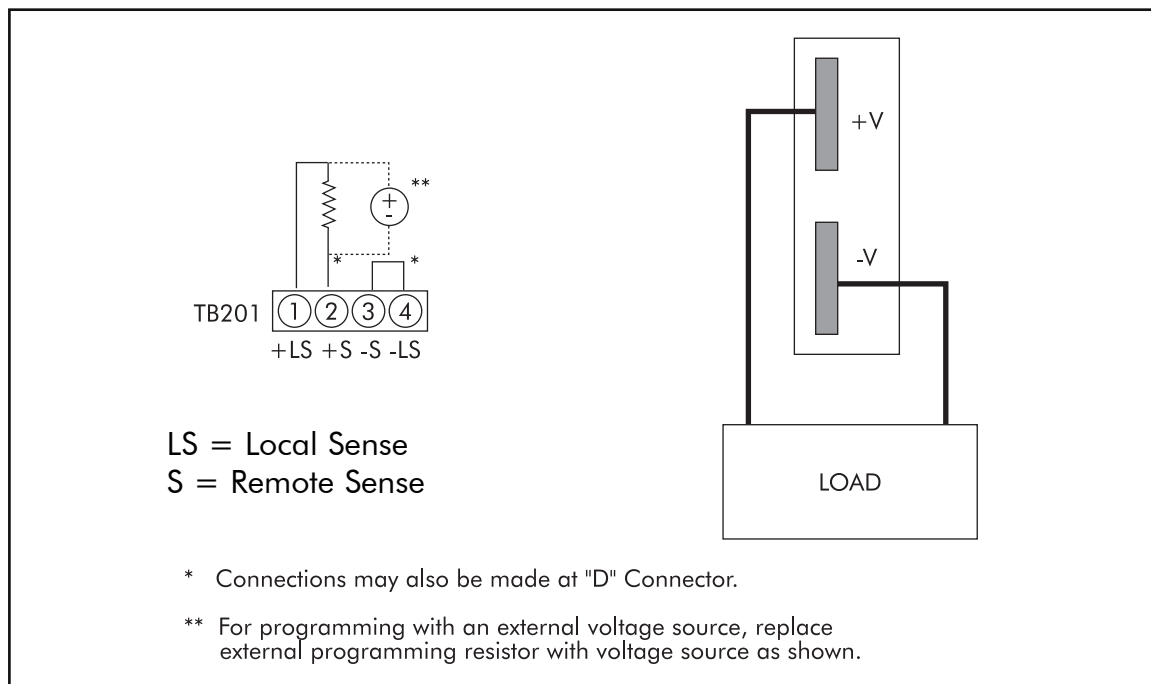

Figure 4 - Remote Voltage Control with an External Programming Resistor or Voltage Source (Local Sensing)
Remote Voltage Programming external resistor.	1000 ohms per volt for resistor connected between pins 1 and 2 on TB201 (see Figs. 4 and 5).
Remote Voltage Programming external voltage source.	Volt per volt for voltage source connected between pins 1 and 2 on TB201 (see Figs. 4 and 5).
2. With the power supply unloaded, set Vout to the OVP threshold desired. In cases where the desired OVP threshold exceeds the unit's adjustment range maximum of 29.4V, a programming resistor (see figures 4 & 5) will temporarily be needed to provide the higher output voltage to perform the adjustment. Once adjusted, remove the programming resistor. Alternatively, you may use an external voltage source to set the OVP threshold as shown in figures 4 & 5.